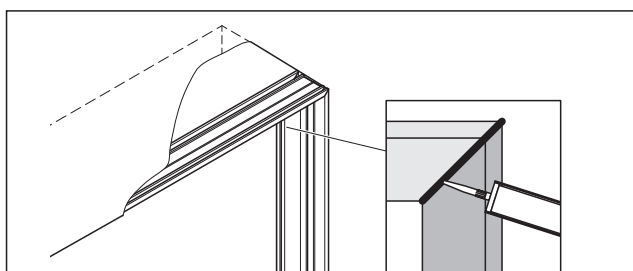

Fig. 27 Siliconize the profile edges and impact areas from the inside
9. If the sound insulation requirements are high, siliconize the profile edges and impact areas from the inside (Fig. 27).